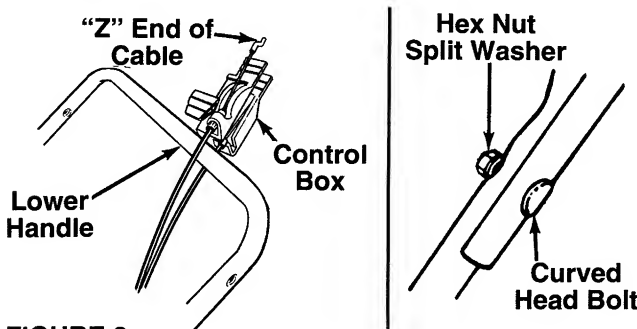

FIGURE 2.
1. Slide the control box over the lower handle so that the cable with the "Z" end is routed above the lower handle, and the other cable is routed below. See figure 2.
2. Secure the upper handle to the lower handle using the curved head bolts, split washers and hex nuts as shown in figure 2.